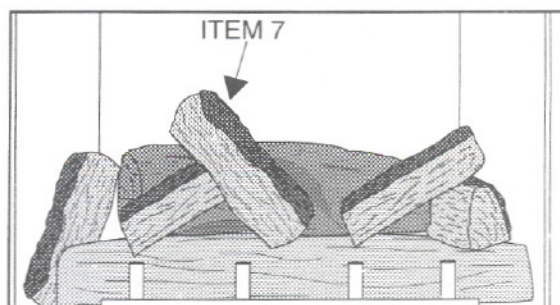

Figure 59
8. See Figure 59. Position the large straight Log (Item 7) with the "bark" of the log to the right. Place the front end of the log in the center indentation of the Front Log. Place the opposite end at an angle (to the left) near the left edge of the Back Log.